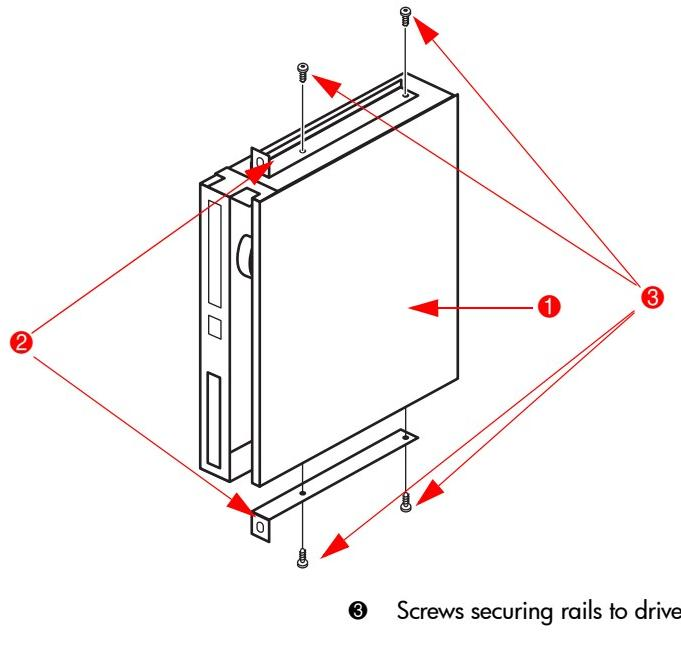

Figure 4: Remove the drive rails (the rail on the right side of the drive is shown)
7. Remove the two T-10 Torx screws securing the rails to the drive, one rail on each side of the drive (see Figure 4).